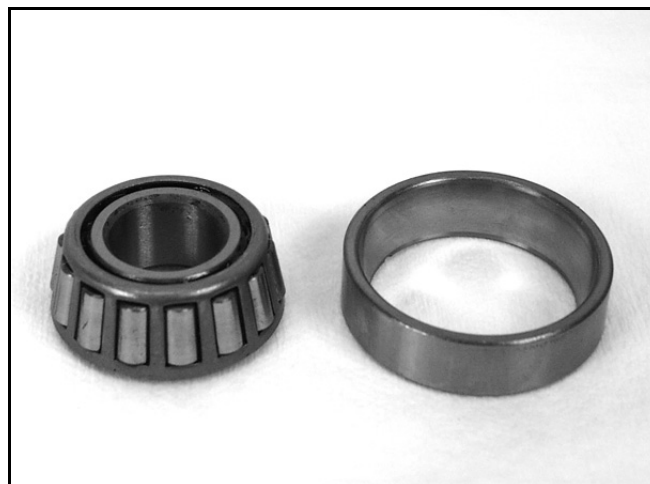

Figure 103
8. Clean the bearing and bearing race and inspect for signs of pitting or other damage (Figure 103).